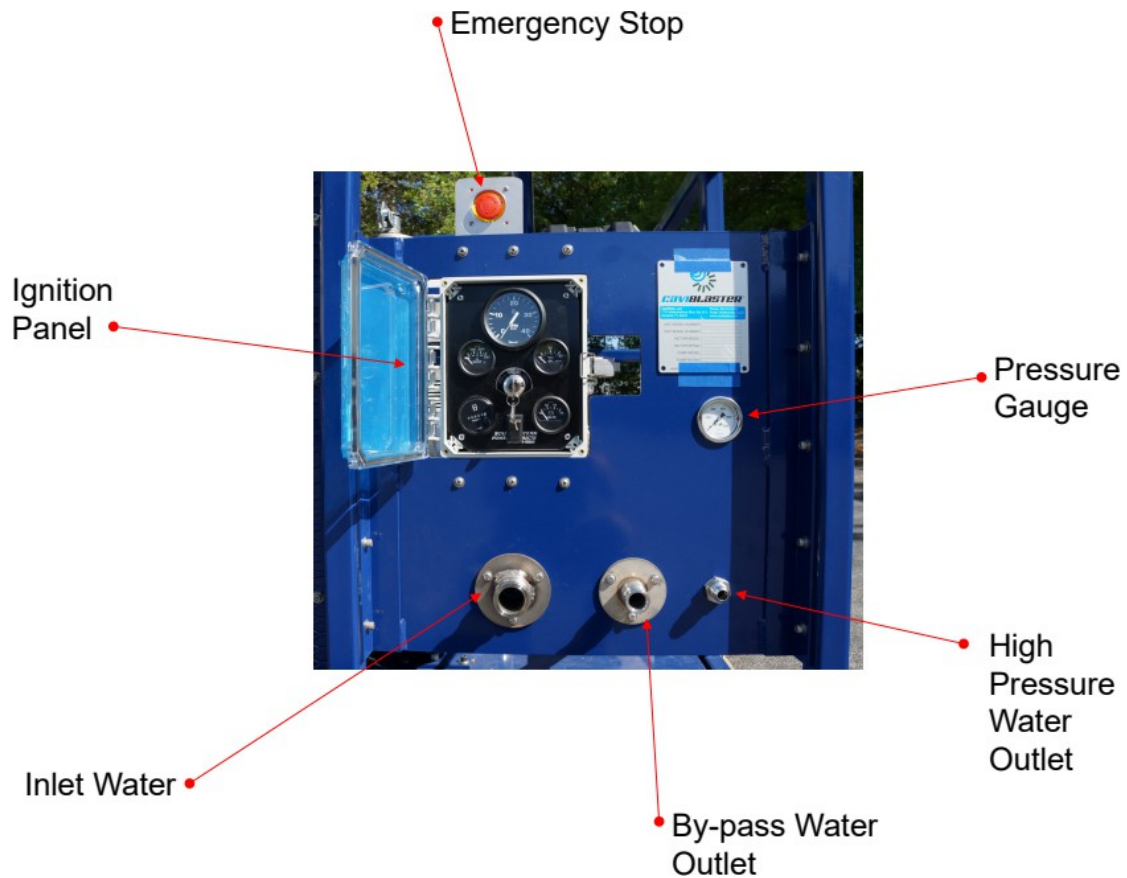

Figure 2.2 – CaviBlaster 3040-D Control Panel
5. Connect the bypass hose (See **Figure 2.2**)
6. Connect the pressure hose (See **Figure 2.2**)
7. **Offshore Unit:** Connect the air starter hose (See **Figure 2.2**)
The feed water inlet connection is located on the control panel (See **Figure 2.2**). A belt-driven self-priming centrifugal water pump is supplied to provide positive inlet water pressure to the main pressure pump.
1. Connect the cam-lock socket on the 1-1/2" clear PVC feed hose to the water inlet connection on the control panel (See **Figure 2.2**).
2. Connect a 1-1/2" cam-lock socket on the water supply hose to the water inlet connection on the control panel (See **Figure 2.2**).
1. Locate the water supply tank so that the supply tank outlet is higher than the water inlet on the power unit control panel (See **Figure 2.2**).
Ensure that the water source can reliably deliver more than the required pump flow of 30 GPM (114 L/M). A minimum delivery of 45 GPM (170 L/M) is required to ensure that the pump is not starved of water. If connecting to a gravity feed tank, locate the tank outlet above the water inlet connection on the power unit to ensure a flooded suction line (See **Figure 2.2**).
5. **Offshore Units:** Open the air supply valve at the source being used to power the air starter. Push the black Engine Start knob (See **Figure 2.2**) "IN" to activate the air starter. If the engine does not start within 10 seconds, turn the air supply off and wait at least 30 seconds before operating the air starter again. Once the engine starts, turn off the air supply to the air starter. Warning – air supply to the starter should not exceed 120-PSI (8 BAR).